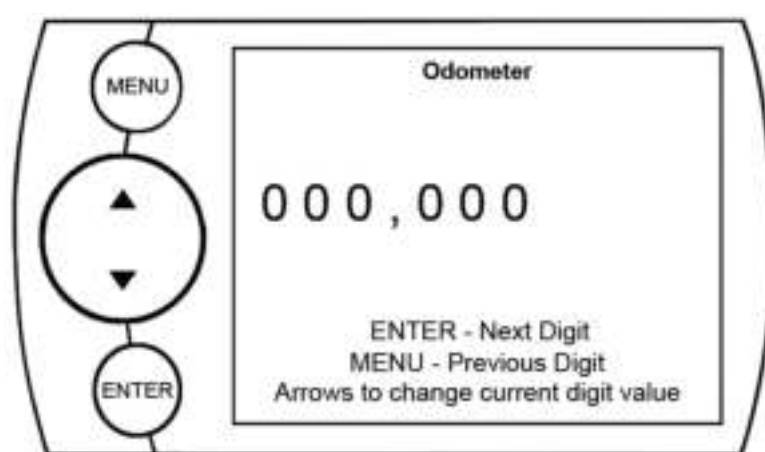

Figure 14
3. Choose “Odometer” to set your current Odometer reading. The screen shown in Figure 14 will appear.
This turns off/on the specific PID alert you chose for Figure 14. That means that any other PID that is turned on, will remain turned on.